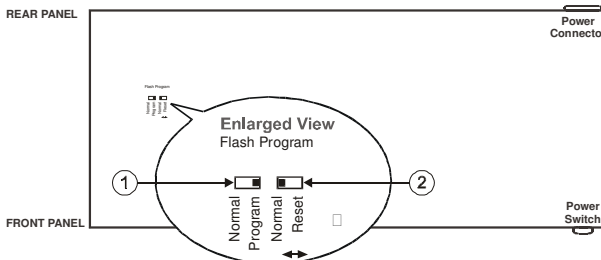

Figure 13: VP-1608 Underside Flash Program Switches Set for Upgrade
3. Set the underside Flash Program switches (see Figure 13), as follows: